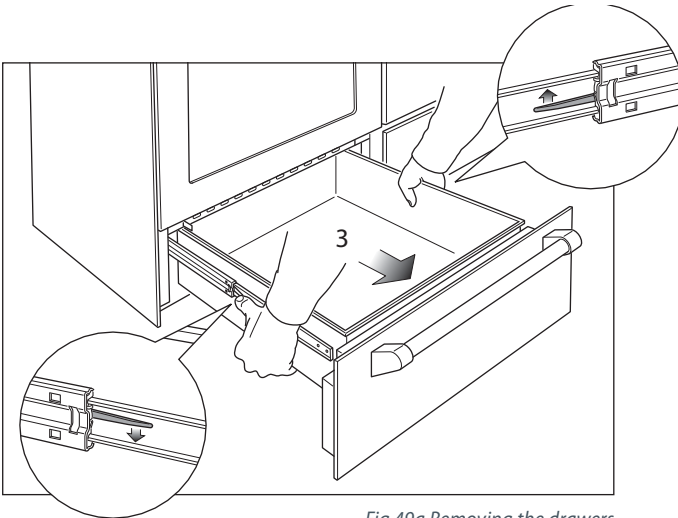

Fig.49a Removing the drawers
- 1 Open the drawer completely (Fig. 49a).